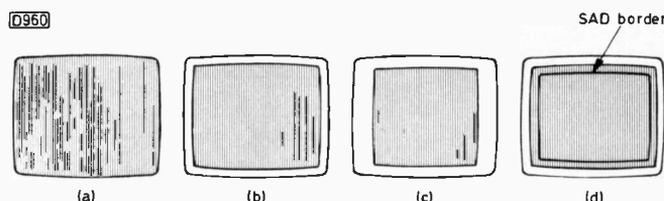

Fig. 1: Rasters. (a) Normal. (b) Underscanned. (c) With 1:1 aspect ratio. (d) SAD border on underscanned raster.
(3) Breathing. Raster size should be virtually independent of beam current. This calls for very good e.h.t. regulation. Domestic TV sets have improved greatly in this respect in recent years but a good monitor will do better, with perhaps a maximum variation of 1.5mm in picture size from cut off to full rated beam current. More on this later.
(4) Black-level clamping. A driven clamp is better than a d.c. restorer. Any clamping carried out during the back porch of a composite, chroma-encoded signal needs a clamp softener in the form of a reactive or resonant circuit between the clamp and signal to prevent crunching of the colour burst.
(5) Tube resolution. Most monitors use high-definition tubes.
(6) Convergence tolerance. This depends on type of tube but can be better than a standard production tube by a factor of up to five.
(7) Stability. Drift of important electrical characteristics with time and temperature is minimised by careful design. A strict maintenance and recalibration timetable may be specified.
(8) Input facilities and interfacing. A general-purpose monitor will be able to accept a choice of input levels and types.
(9) Scan frequencies. As you go up the price scale you find instruments with 625/525-50/60 switching and automatic height compensation; field rates between say 38 and 80Hz, interlaced or not; and line scan rates up to 38kHz. These very high scanning frequencies are relevant only to wideband monitors with very high resolution tubes.
(10) Switchable scan amplitudes. An underscan mode will facilitate inspection of the extreme borders of the picture since they will be within the visible raster area. A 1:1 aspect ratio may be provided. See Fig. 1.
(11) Pulse cross facility. A useful feature of some professional and broadcast-standard monitors is their ability to display the line and field blanking periods and the signals these contain. This is done by switching delay monostables (about 10msec for the field, 20 μ sec for the line) into the sync pulse paths. This mode of operation shows sync dropouts, the burst, blanking, vertical interval test signals (VITS), reference and other test signals.